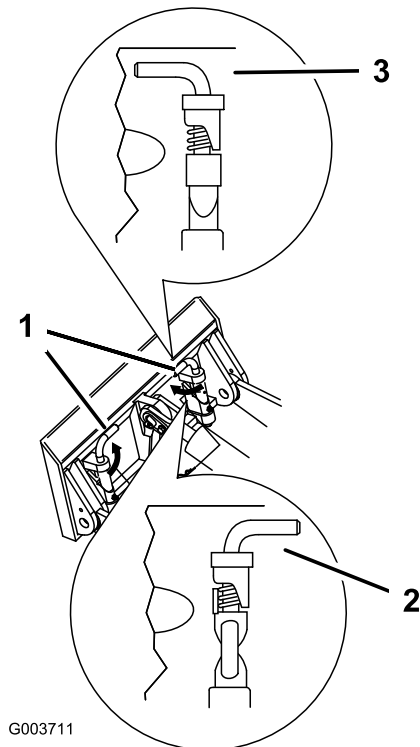

Figure 14
7. Engage the quick attach pins, ensuring that they are fully seated in the mount plate (Figure 14).